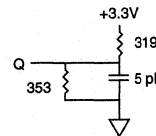

Fig. 2 OUTPUT LOAD EQUIVALENT
- ¹HZCE, ¹HZOE and ¹HZWE are specified with CL = 5pF as in Fig. 2. Transition is measured ±200mV from steady state voltage.
- The test function pin (TF) can be treated as a no connect pin. However, it is recommended that the pin be grounded.